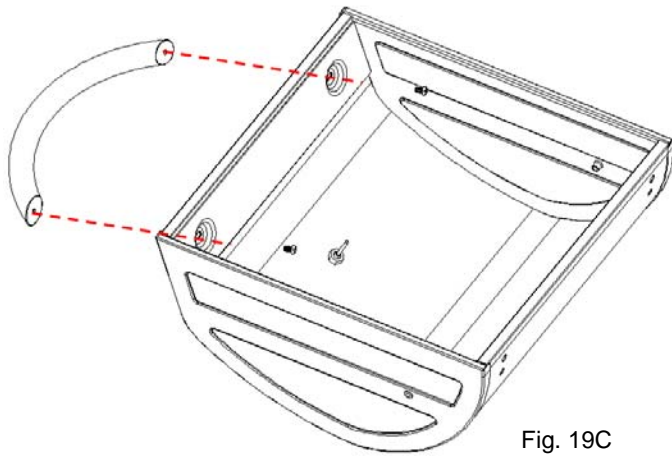

Fig. 19C
Attach (1) Lid Handle and Gas Grill Lid Handle Heat Shield to the Gas Grill Lid using (2) M6x15 bolts as shown as Fig. 19C